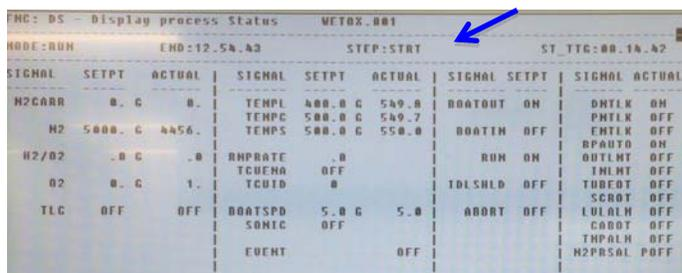

Figure 13: Screen when recipe starts (STRT)
- 9.3.7. Once you have finished entering all of your required values, press MENU, then DS to check that the recipe is loaded properly (Recipe name will display on top of the screen. For ex: STDNITR.006). Press RUN to start the process (Fig. 13). The furnace light will turn green and the screen will display STEP: STRT. The tube door will open and the boats come out (Fig. 14, 15). It will ring the alarm as soon as the boat is all the way out. Once out ALRM comes on. Acknowledge it by pressing ALARM ACK.